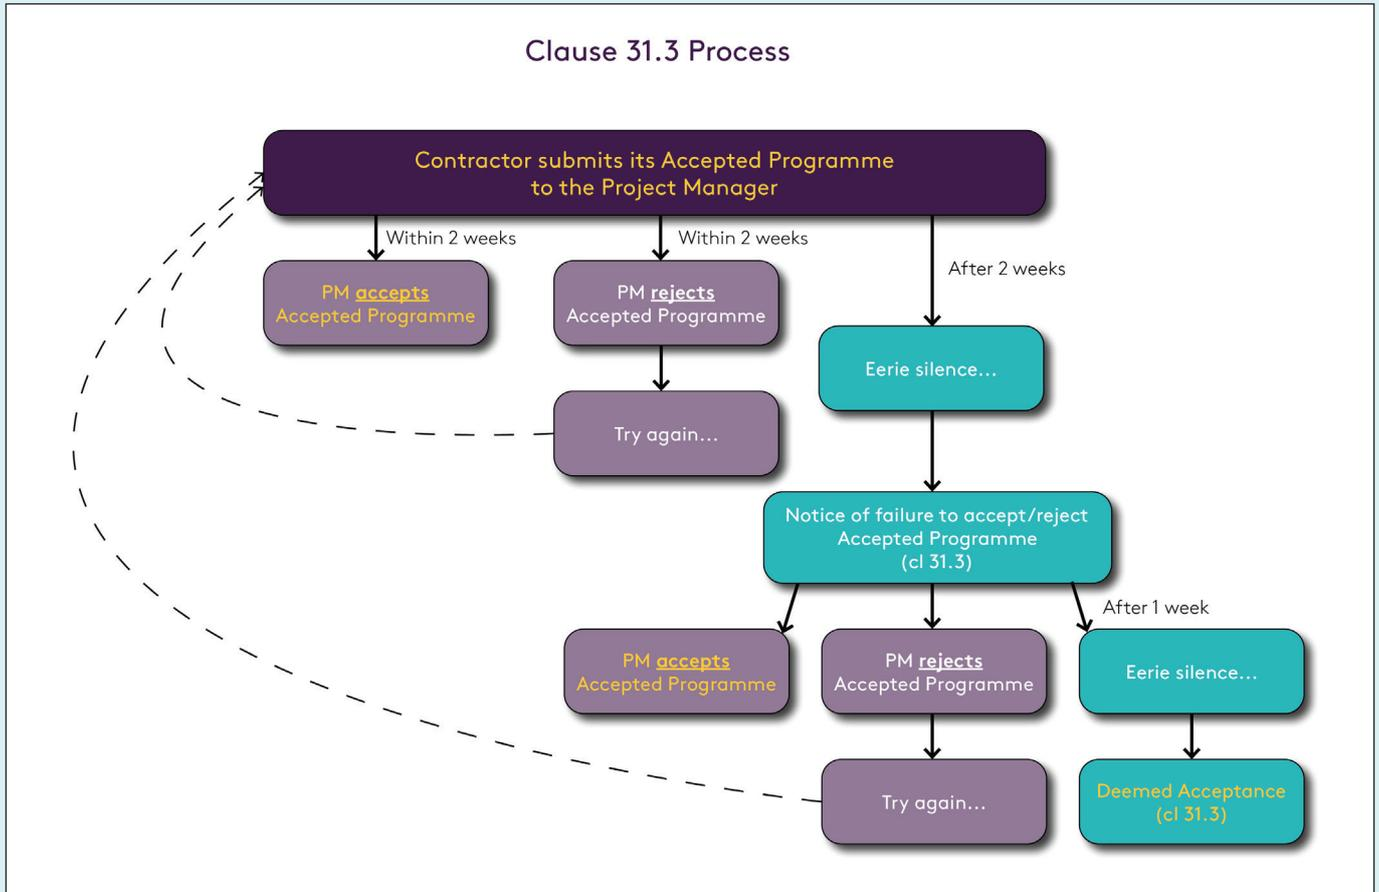

Figure 4 - Clause 31.3 Process - The Accepted Programme
A flow chart showing the procedure for accepting the Accepted Programme is set out below (Figure 4) and applies to each revision as well.
4. **Don't forget the Clause 31.3 notification process set out in the flow diagram above (Figure 4).** That may be a way of getting deemed acceptance under the NEC 4 programme (it does not apply to the NEC 3 form) if a Project Manager is being particularly slow; and